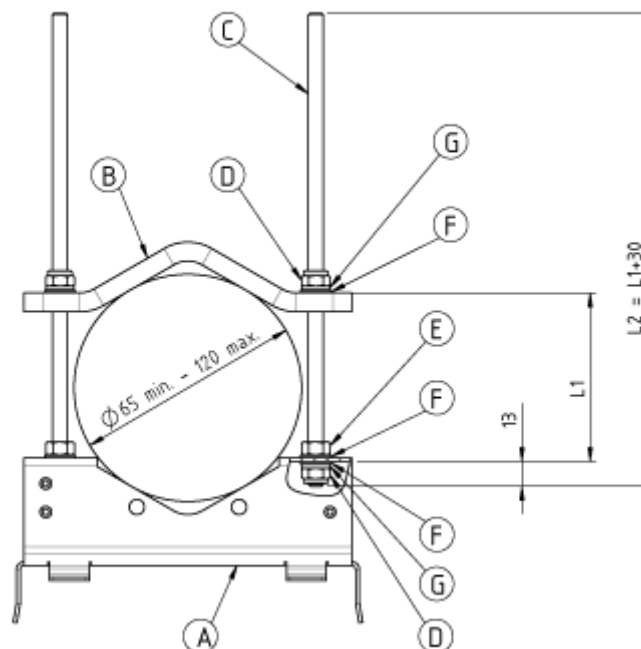
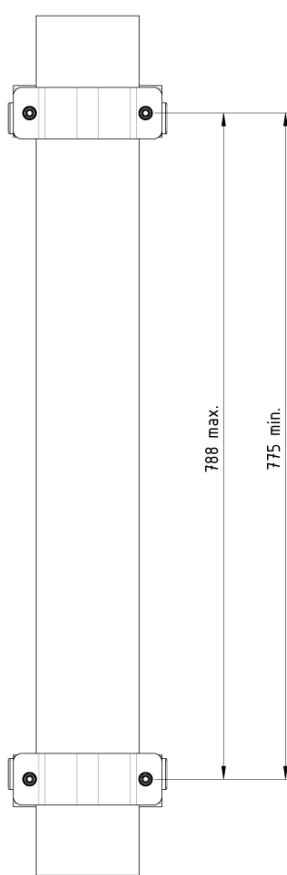

figure 4-6 Pole mounting – with brackets
figure 4-7 Pole mounting - pitches
Screw a hexagon nut (E) to the threaded bolt and place a flat washer (F) on it. Insert this side of the bolt into the mounting bracket (A). Then, fasten the mounting bracket with a flat washer (F), split lock washer (G), and the locking nut (D). See figure 4-6 Pole mounting – with brackets.
2. Place the pre-mounted brackets with threaded bolts to the pole or post, slide the counter bracket (B) on the threaded bolts and fasten the kit with a flat washer (F), split lock washer (G), and the locking nut (D).
- F Note:** When fastening the brackets make sure that they are installed congruently and not at an angle to each other. To determine the distance between the clamps refer to figure 4-7 Pole mounting - pitches.
3. Hang the Remote Unit into the upper bracket, insert it into the lower bracket (see chapter 4.2.3), and fasten it to the lower bracket with the M8x25 screws (H), split lock washers (G), and flat washers (F).